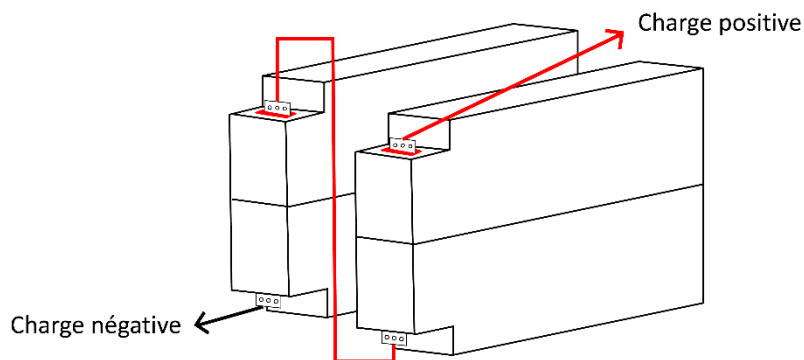
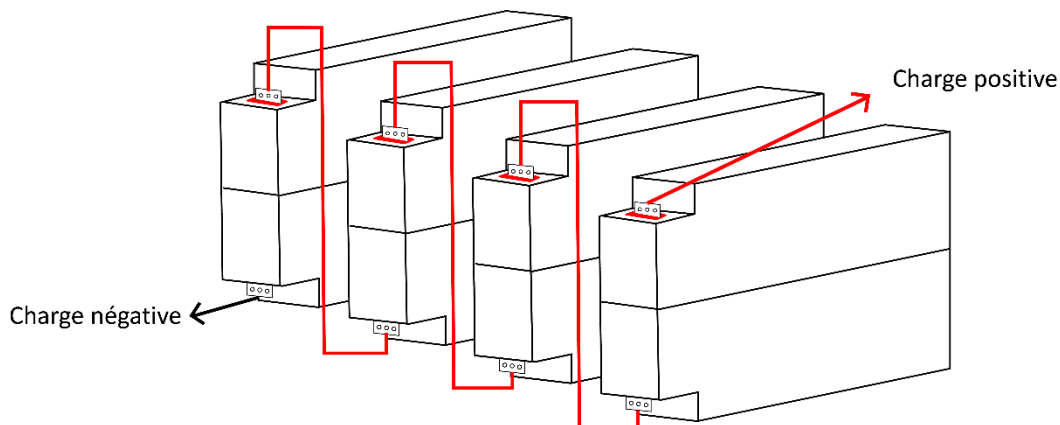

Figure 4.1: Two GC3 Batteries Connected in Series to create a 24V 270Ah Battery Bank
Figure 4.2: Four GC3 Batteries Connected in Series to create a 48V 270Ah Battery Ban
7. Repeat steps 3-6 for additional batteries, but **DO NOT** exceed 48V. An example of a correct series connection can be found below in Fig. 4.1 and Fig. 4.2.